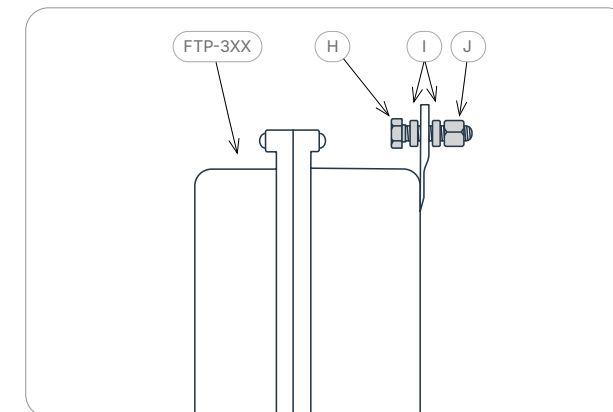
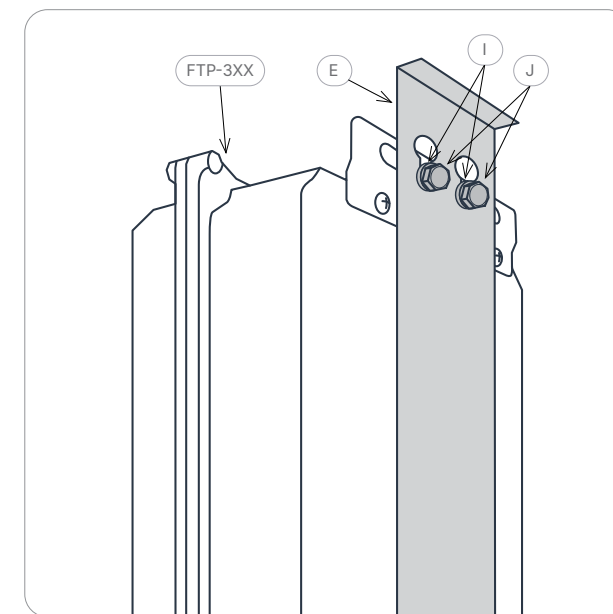

Figure 10.
Figure 11.
For installation of a product in the **FTP-3XX** series, refer to **Figure 10** and **Figure 11**.
1. Assemble **(H)**, **(I)** and **(J)** according to **Figure 10**. Tighten **(J)** loosely.
2. Install the **FTP-3XX** in the keyholes on the **Assembly Bracket (E)** according to **Figure 11**.